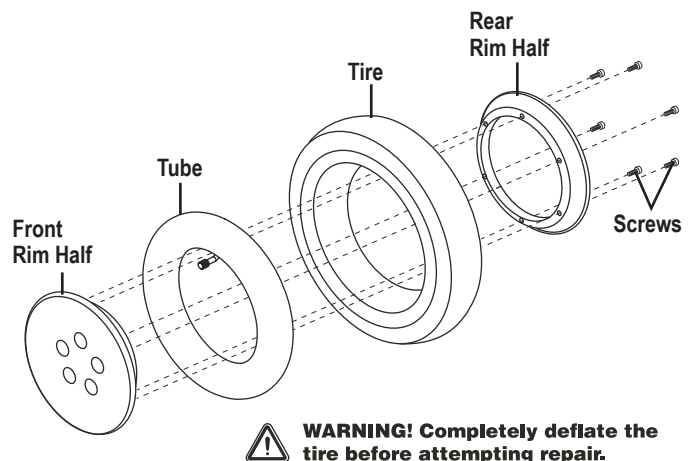

Figure 12. Drive Wheel Disassembled
6. Remove the screws and separate the front and rear rim. **See figure 12.**
10. Reinstall the hubcap, if equipped, then reinstall the five (5) lug nuts onto the wheel hub and tighten.